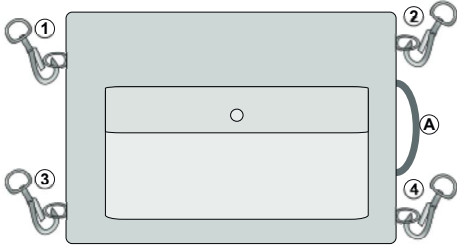

Fig. 1: Correct snap hook connection
- ▶ Insert the shoulder strap's snap hooks as shown in Fig. 1. This helps prevent inadvertent loosening of the snap hooks.
- ▶ To transport the device, connect the shoulder strap's snap hooks to D-rings ①+② or ③+④, and to take measurements, to D-rings ①+④ or ②+③.